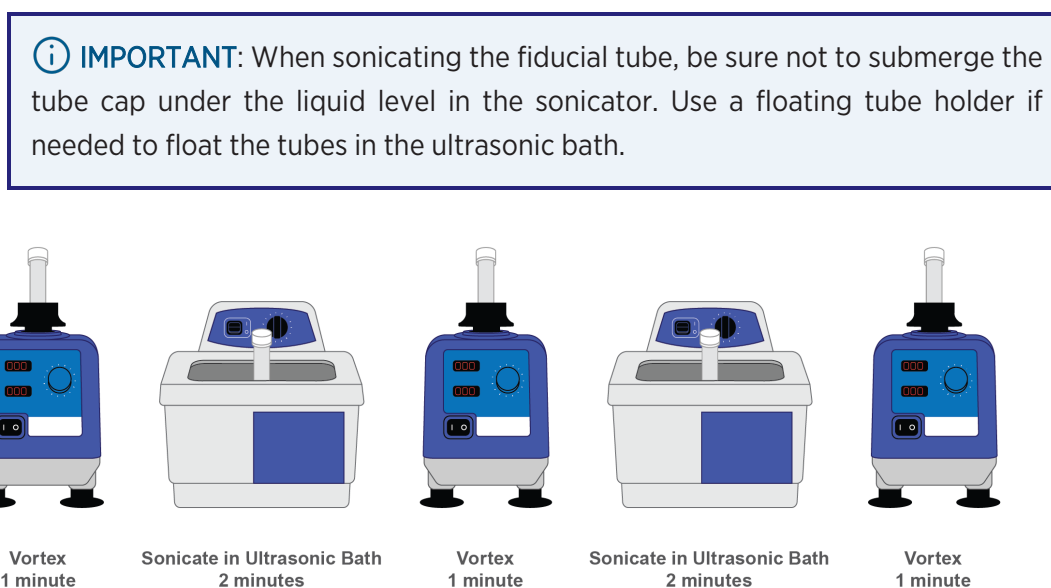

Figure 10: Fiducial preparation
1. Refer to the graphic below to vortex and sonicate the fiducials prior to use (Figure 10):
2. Once fiducials are prepared following Figure 10, make a **1:100 dilution** of fiducial stock (0.1%) to the working concentration (0.001%) in **2X SSC-T** by adding **12 μ L** of the fiducial stock to **1188 μ L** of **2X SSC-T** (594 μ L x 2).